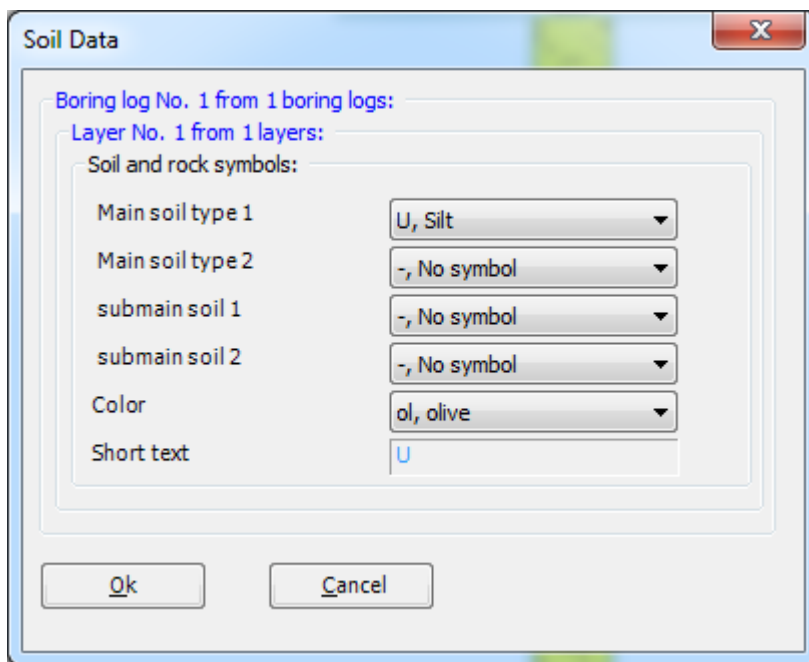

Figure 3.14 "Soil and rock symbols" dialog box
- Double-click on the soil symbol of the soil layer. The corresponding dialog box to modify the soil symbols of that layer appears (Figure 3.14)
- Select "U, Silt" as the soil type in the "Main soil type 1" combo box in the dialog group box "Soil and rock symbols" in Figure 3.14. The color of the silt and a short text "U" according to the German specification code DIN 4023 will be automatically created